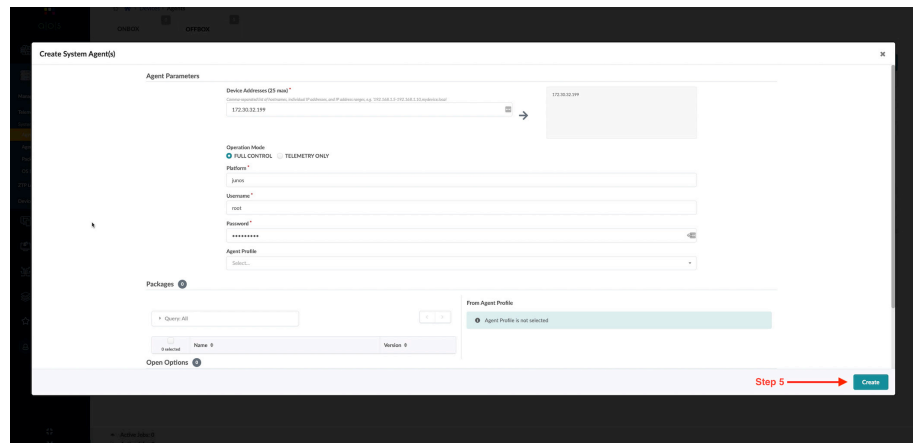

Figure 3.16 Creating an Off-box Agent in Apstra
Step 4: Fill in the following information. See Figure 3.16.